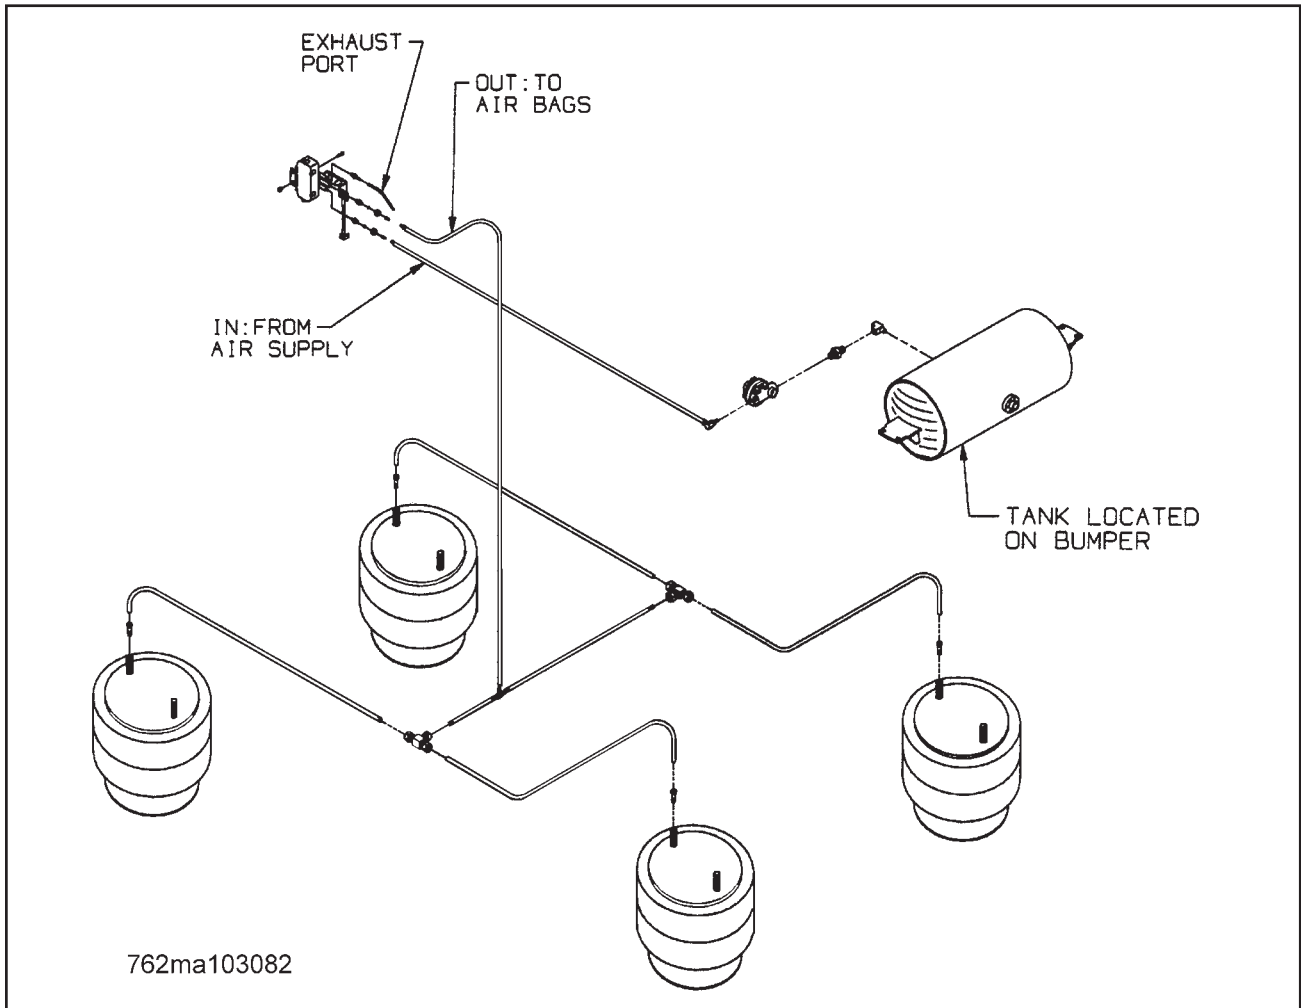

Figure 4-7 Tandem Axle Air Ride Suspension System
- See Figures 4-7 and 4-9 for Tandem and Triple Axle Air Ride Suspension drawings.